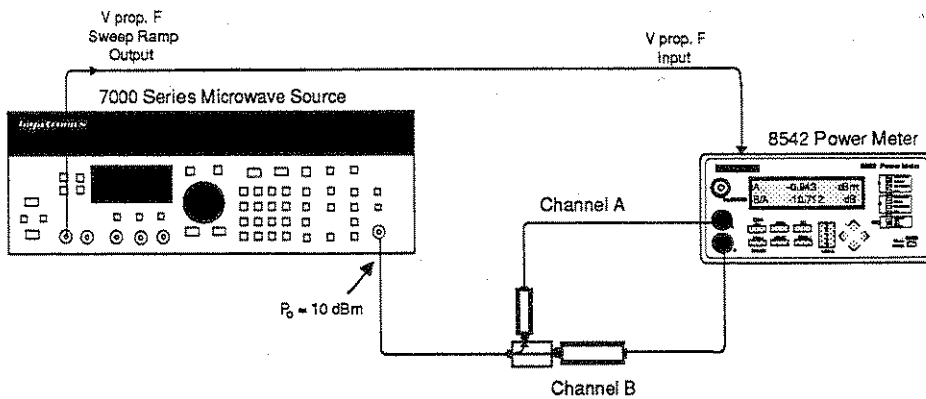

Figure 11. Multi-Frequency Coupler Coefficient - Dual Channel.
Figure 11 on the next page shows a coupler calibration procedure. An operating procedure using the coupler as a multifrequency power level monitor follows. Be sure to connect the voltage proportional to frequency connections, so that the power meter will automatically apply the sensor's Cal Factor corrections to the displayed reading.
1. Connect coupler, power sensors, and Power Meter as shown above in Figure 11.